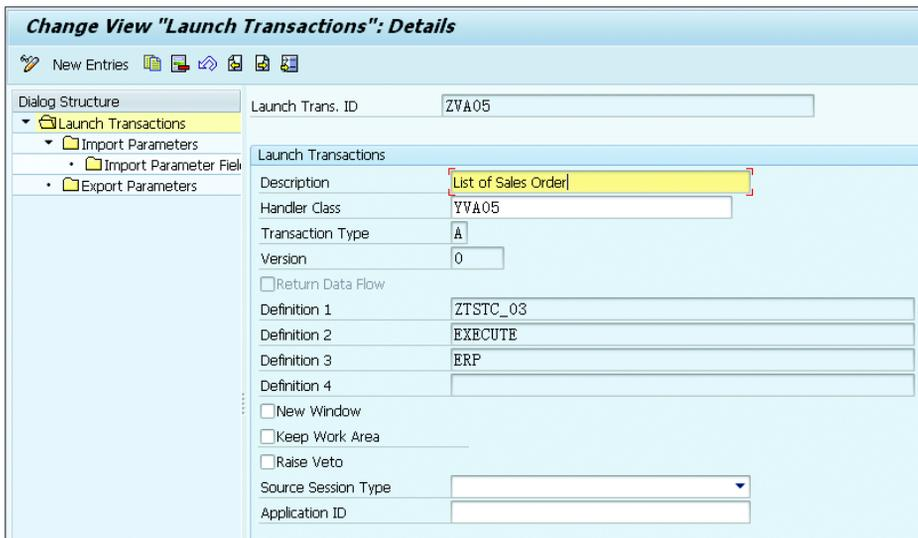

Figure 8.52 Copy/Delete Launch Transactions
7. Verify the transaction launch created with the Transaction Launcher Wizard via the menu path, **SPRO • CUSTOMER RELATIONSHIP MANAGEMENT • UI FRAMEWORK • TECHNICAL ROLE DEFINITION • TRANSACTION LAUNCHER • COPY/DELETE LAUNCH TRANSACTIONS** (see Figure 8.52).